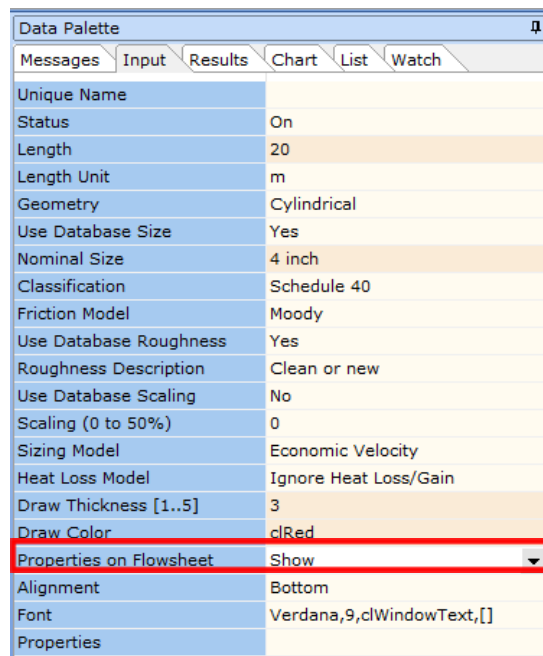

Figure 40: Show Properties on Flowsheet.
44. Now let us show the properties of the pipe. Left mouse-click on the pipe number “-1” and from the *Input Inspector*, change the field titled *Properties on Flowsheet* from *Hide* to *Show* (Figure 40).